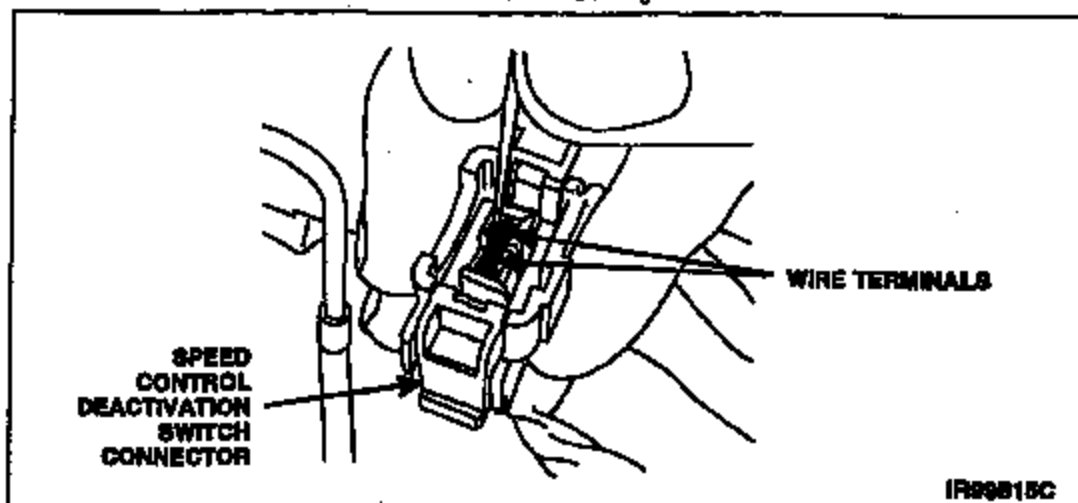

FIGURE 3
3. Remove the locking wedge from the end of the connector. Then, disengage the locking tabs and remove the wire terminals from the connector. See Figure 3.